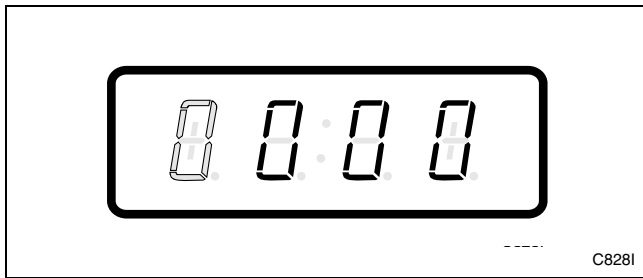

Figure 73
6. Press the START (enter) keypad to enter the fifth digit and display remaining four digits. The active digit will flash one second on and one second off. Refer to *Figure 73*.